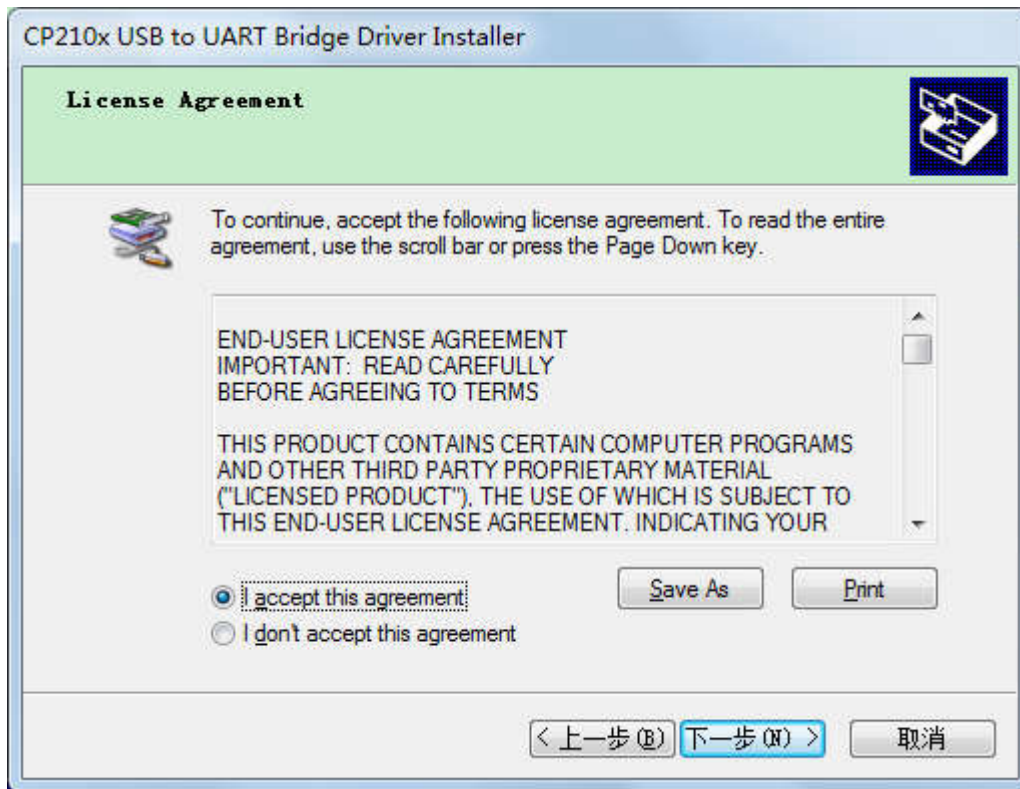
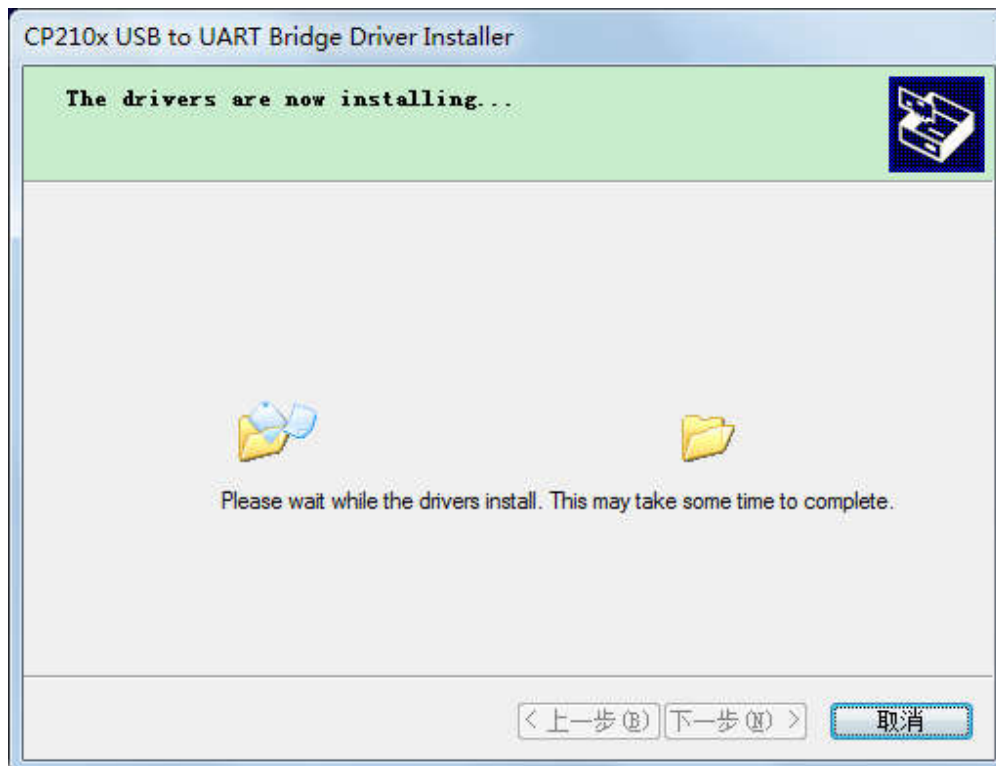

Fig. 4-7 Agreement selection window
Fig. 4-8 Installing window
6. Click the button "Close" in Fig. 4-6 to complete the module software installation, and then click the button "Next" in Fig. 4-7 for USB driver installation, at which time, an agreement selection window as shown in Fig. 4-8 will pop up.
8. During installation, the installation progress interface will appear, please wait for the installation to complete, as shown in Fig. 4-8.